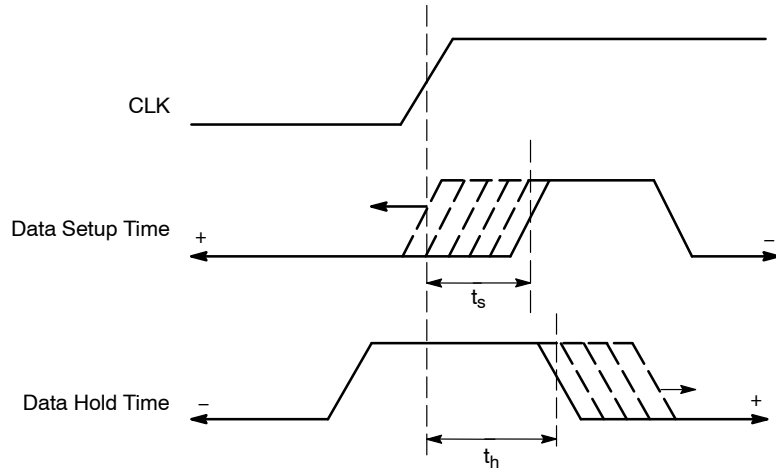
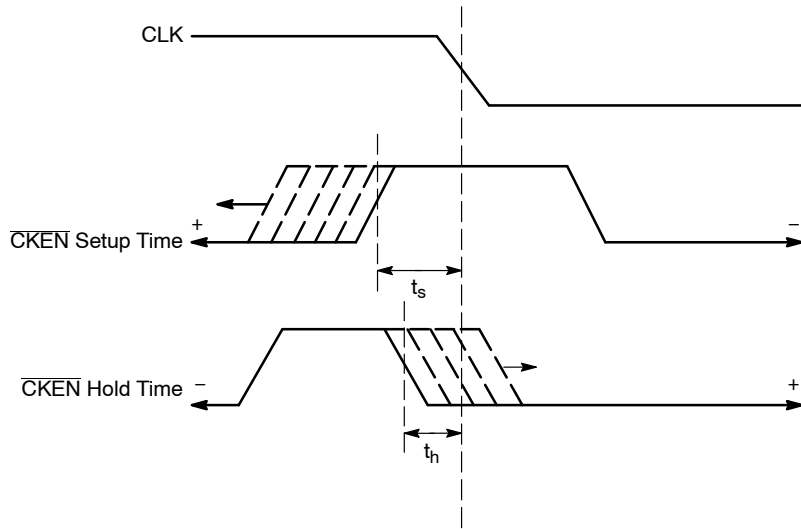

Figure 5. Data Setup and Hold Time
Figure 6.  $\overline{CKEN}$  Setup and Hold Time
| $t_s$                                  | Setup TimeSINA, B+ TO CLK+ (Figure 5)CKEN+ TO CLK- (Figure 6)                                    | -400100  | -45950   |                   | -420100  | -47950   |                   | -440100  | -49250   |                   | ps   |
| $t_h$                                  | Hold TimeCLK+ TO SINA, B- (Figure 5)CLK- TO CKEN (Figure 6)                                      | 53345    | 474-35   |                   | 55045    | 490-35   |                   | 56045    | 508-35   |                   | ps   |
Upon power-up, the internal flip-flops will attain a random state. To synchronize multiple flip-flops in the device, the Reset (pin 1) must be asserted. The reset pin will disable the internal clock signal irrespective of the CKEN state (CKEN disables the internal clock circuitry). The device will grab the first stream of data after the falling edge of RESET①, followed by the falling edge of CLK②, on second rising edge of CLK③ in either CKSEL modes. (See Figure 6)